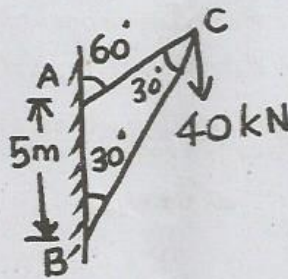

Fig. Q. 11(b)
- (b) A crane is shown in fig. Q. 11(b) the cross sectional area of the member AC is 3000 mm² and that of member BC is 7000 mm². Determine the vertical deflection of the joint C. Take $E = 2.0 \times 10^5$ N/mm². Use Williot diagram method.